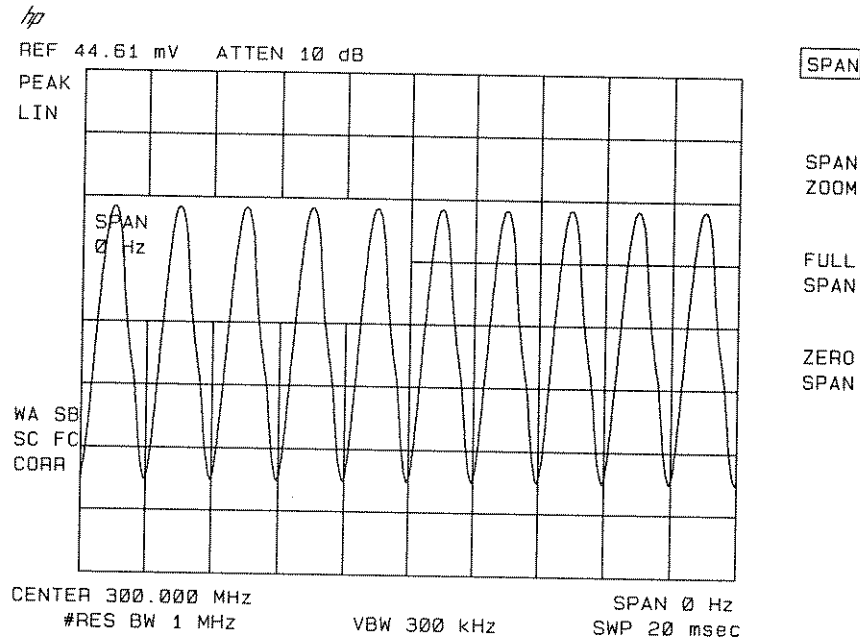

Figure 6-27. Measuring Modulation in Zero Span
5. To select zero span, press **SPAN**, **0 Hz** or **ZERO SPAN**. See Figure 6-27. If the modulation is a steady tone (for example, from a signal generator), use video trigger to trigger on the waveform and stabilize the display. Adjust the sweep time to change the horizontal scale.